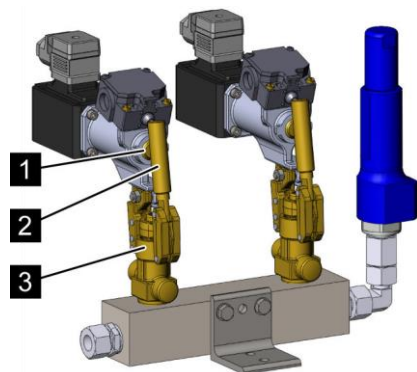

Fig. 109: Mounting the EM release device
6. ➔ Unscrew the valve lever (Fig. 109/2) from the valve (Fig. 109/3) of the distributor block.
7. ➔ Ensure that the EM release device is not tensioned, i.e. that the release pin (Fig. 109/1) is projecting.